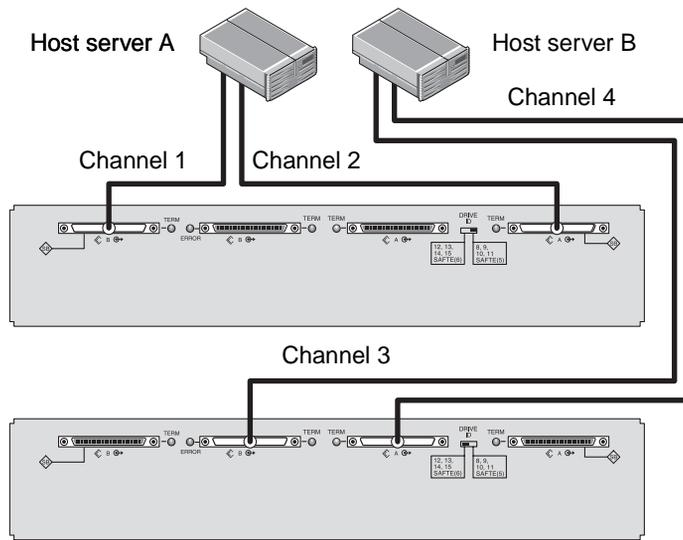

FIGURE 2-12 JBODs Directly Connected to Hosts (Dual-Bus)
FIGURE 2-12 shows multiple hosts with multiple JBODs in a dual-bus JBOD configuration with two host connections, one host connection to each channel (single-initiator mode). This is an efficient way to provide mirroring capability.
In FIGURE 2-12, Host A is connected to port B In and port A Out, and Host B is connected to port B Out and port A In. The following table shows the drive IDs for FIGURE 2-12.
1. **Connect each JBOD port to a host as shown in FIGURE 2-12.**